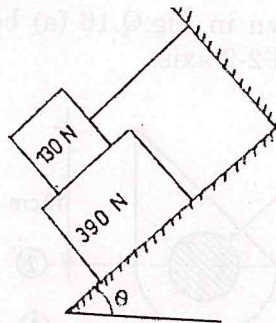

fig Q 14(a)
14. (a) What should be the value of the angle θ so that motion of the 390N block as shown in Fig.Q.14(a) impends down the plane? The coefficient of friction for all surfaces is $1/3$.